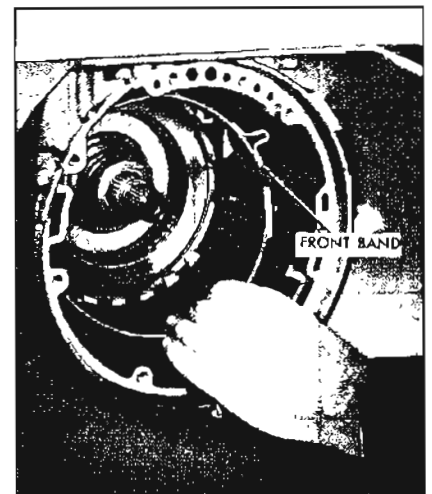

Figure 5-701
15. Install front band with band anchor hole placed over the band anchor pin and apply lug facing servo hole. See Figure 5-701.